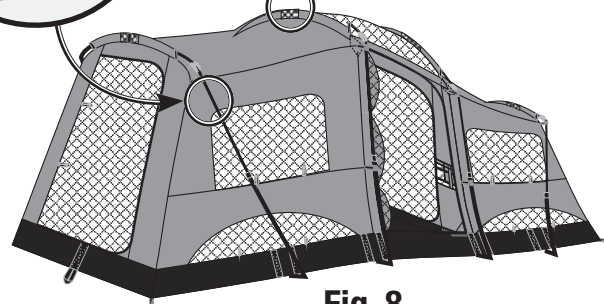

Fig. 8
- Verify the clips along the edges of the tent are properly attached to the frame poles. (Fig. 8 and 9)
- From inside of the tent pull down the all 4 "D" rings underneath the Roof Joints to ensure the joints are locked in place. (Fig. 8 and 10)